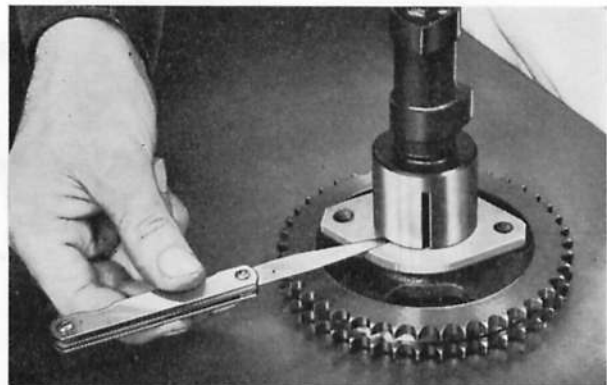

Fig. A.44. Checking the camshaft thrust plate clearance
2. With the camshaft front journal supported, press on the timing wheel so that its timing mark is facing away from the thrust plate and the specified clearance is obtained between the front journal and the plate (Fig. A.44). This clearance represents the end float of the camshaft when installed.